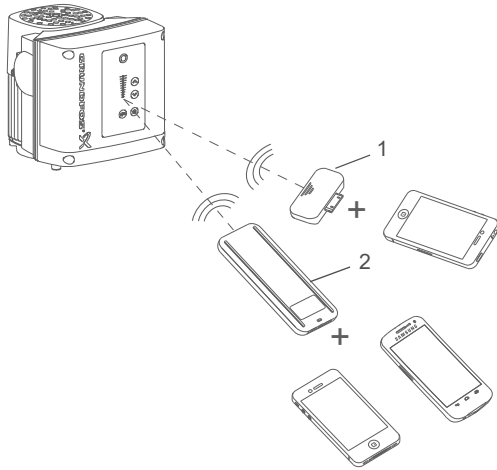

Fig. 37 Grundfos GO Remote communicating with the motor via radio or infrared light
Grundfos GO Remote offers three different mobile interfaces (MI). See fig. 37.